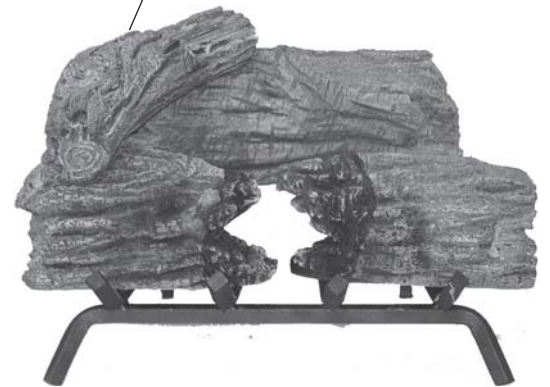

Figure 15 - Placing Left Middle Log (#4)
- Install left side middle log #4 as shown. *See Figure 15.*